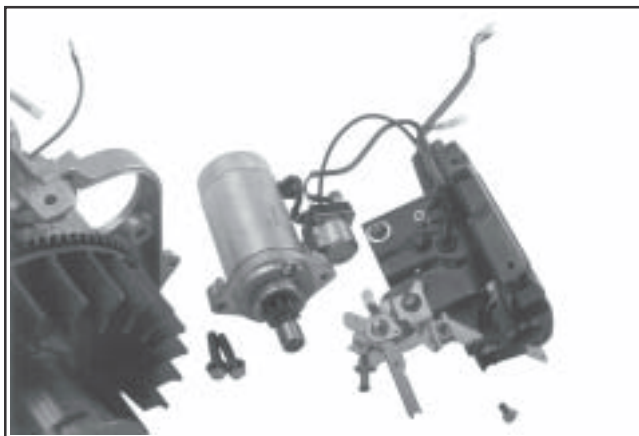

Figure 9-31. Inertia Drive Starter and Control Panel Removed.
2. Remove the two front fuel tank bracket (not used on CS8.5 [spec. 95xxxx]) mounting screws, attaching the throttle lever mechanism, switch and oil sentry light bracket. On electric start engines the electrical control panel housing will also be included. Note the washer used on PTO side screw only. See Figure 9-31.
Components may be further disassembled if required. See Figures 9-31, 9-32, and 9-33.